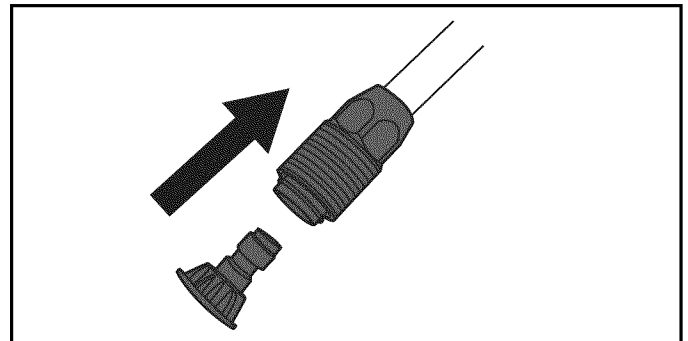
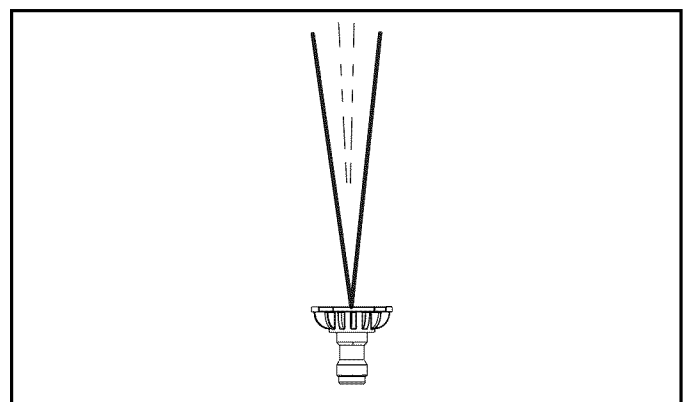

Figure 4-17. Nozzles
Figure 4-18. Wash Pressure Nozzle (Green)
1. Pull back collar on quick-connect lance (Figure 4-17) and install the GREEN wash nozzle (Figure 4-18) for the following cleaning applications.